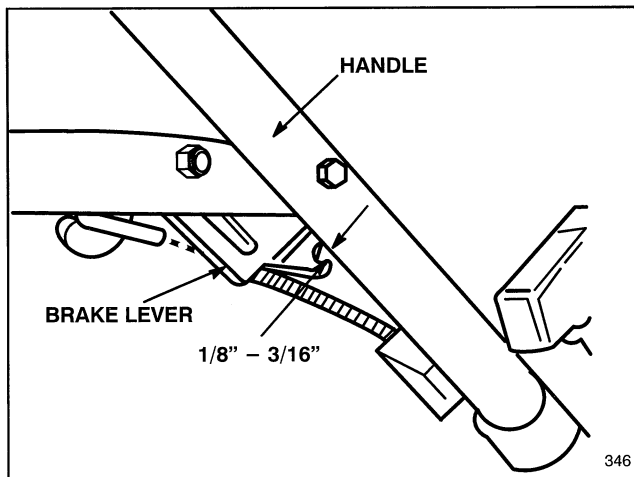

Figure 21
2. CHECK ADJUSTMENT (Fig. 21)—Move control bar toward handle until slack in wire is removed. Gap between brake lever and handle must be  $1/8'' - 3/16''$ . See step 3 for adjustment.